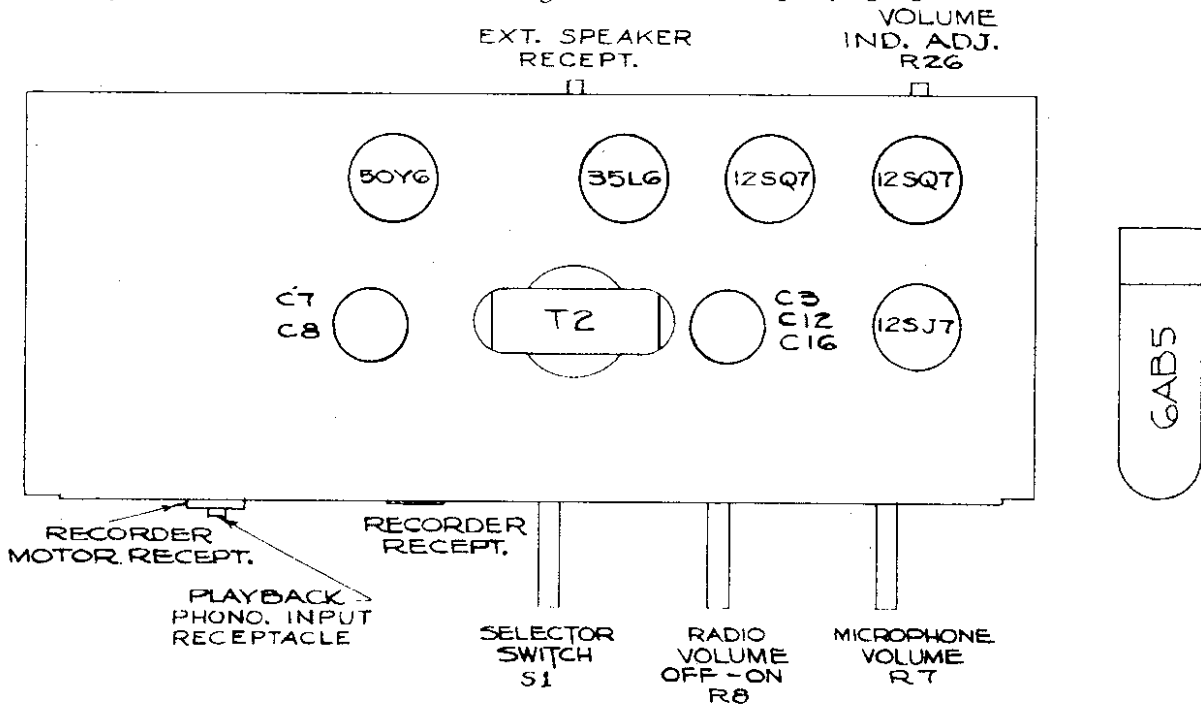

Fig. 2—TUBE LOCATION AND PARTS LAYOUT TOP VIEW CHASSIS 133
2. Using a standard phono plug, attach the playback arm cable to the "playback" phono input receptacle. (See Figure 2.)
3. Using a second standard phono plug, attach a 3.2 ohm PM dynamic speaker to the "speaker" jack. (See Figure 2.)